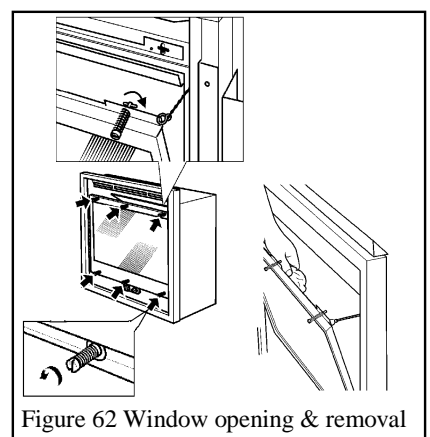

Figure 62 Window opening & removal
- Push in the three spring loaded bolts at the top of the window and make a quarter turn so that the slots in the bolt heads are horizontal. This will release the top of the window. Swing the top of the window open as far as the chain will allow. The window should be open enough to let you clean the inside of the glass. See figure 62.
- Push in the three spring loaded bolts at the top of the window and make a quarter turn so that the slots in the bolt heads are horizontal. This will release the top of the window. See figure 62.
- Remove the bottom three spring-loaded window bolts. See figure 62.
- Detach the chain from the top right corner of the window. See figure 62.